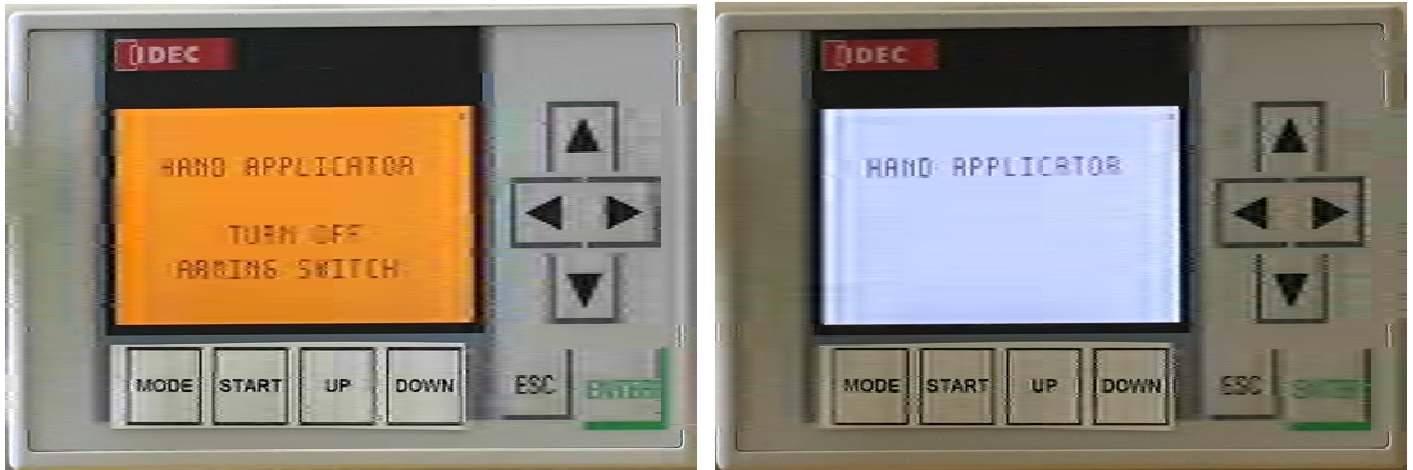

FIGURE 14
4.4.1 The AeroClave Portable Applicator (APA) in Hand Applicator Mode (Figure 14, right) may be used effectively on exteriors, individual equipment, and interiors. Interiors can be decontaminated with HVAC and other ventilation systems left on. If ventilation systems are to be left on, controls must be put in place to prevent unintentional personnel exposure as described in section 4.1.2.
- 4.4.4 Hand Applicator Mode does NOT require the red arming switch to be flipped up in the ON position to engage the system (Figure 14, left). Flip the switch down into the OFF position to engage the unit in normal operation for Hand Applicator Mode (Figure 14, right).